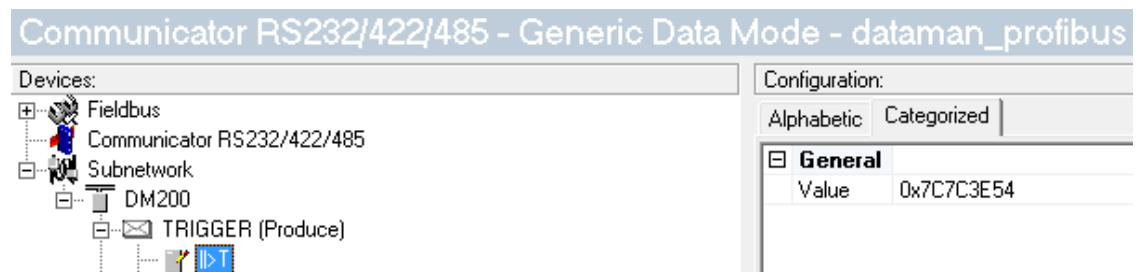

Figure 14 - DWord "||>"
2. Right click on the transaction *TRIGGER*, add a **DWord Constant** and name it "**||>T**". Set its *Value* property to **0x7C7C3E54**. It correspond to the hexadecimal value of the ASCII characters "**||>T**", see figure 14.